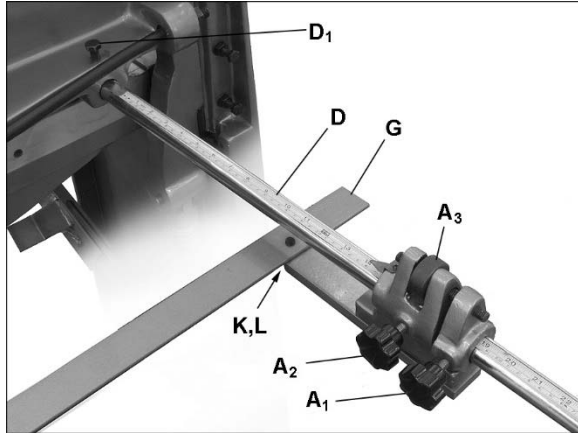

Figure 4
1. Insert rod (D, Figure 4) through adjustment block (A) and into frame. Make sure both rods are inserted an even amount into the frame. Tighten securely in place with screw (D1).
2. Attach back stop (E) to adjustment block flange with M10 screw and flat washer (K,L) from underneath.
1. To position back stops, loosen all knobs (A1, A2, Figure 4) and slide adjustment blocks close to desired position on scale.